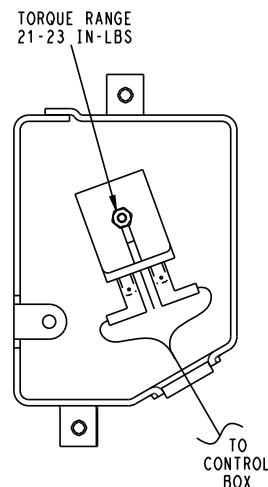

Fig. 39 — Digital Unloader Solenoid Valve
6. If the compressor is a digital compressor, remove the digital unloader solenoid (Fig. 39). Save the mounting screw for re-installation later. Remove the harness from the junction box.
25. If the compressor is a digital compressor, connect the digital unloader solenoid as shown in Fig. 39.